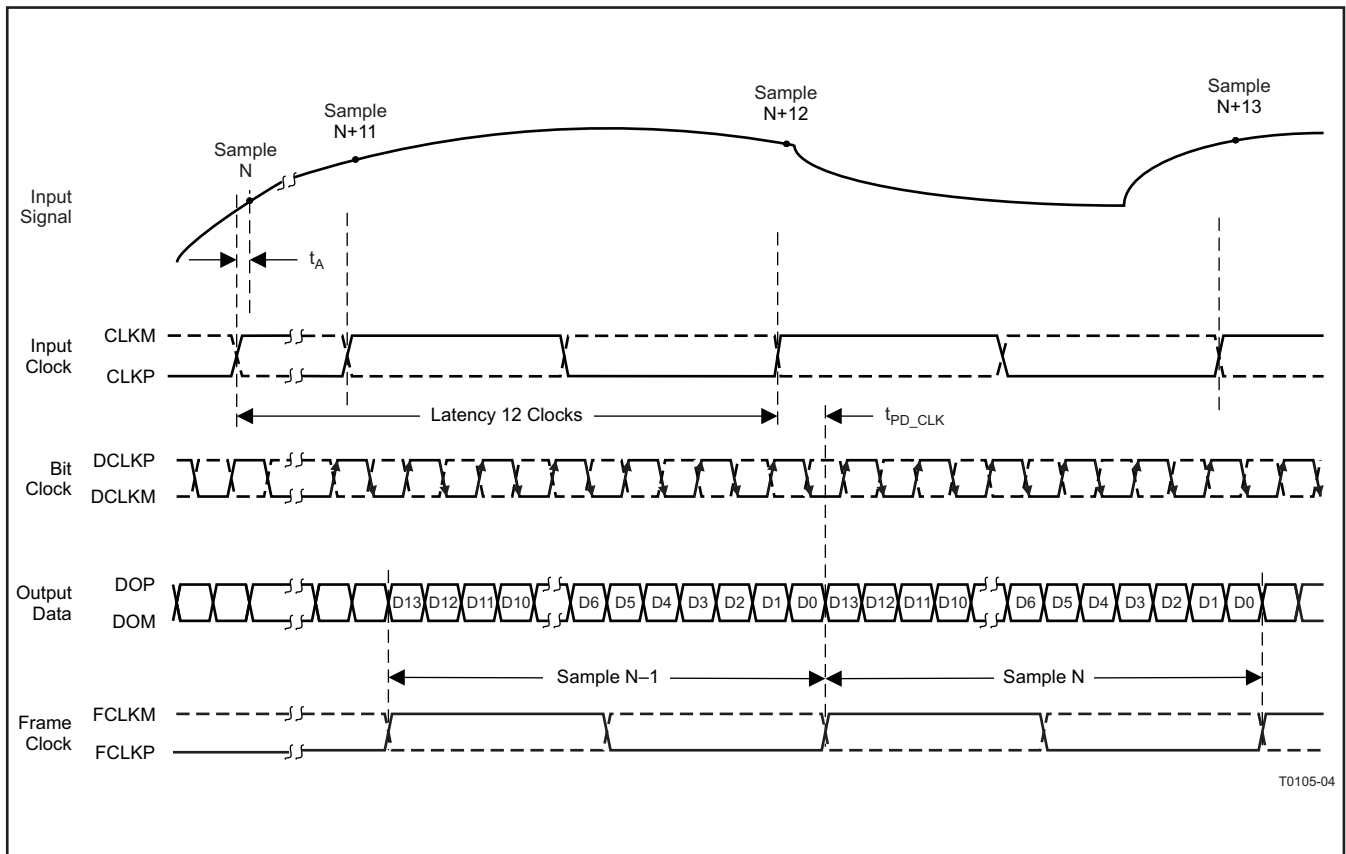

Figure 1. Latency
| ADC Latency (7) | Time for a sample to propagate to ADC outputs, see Figure 1 | 12 | | | 12 | | | 12 | | | 12 | | | Clock cycles |